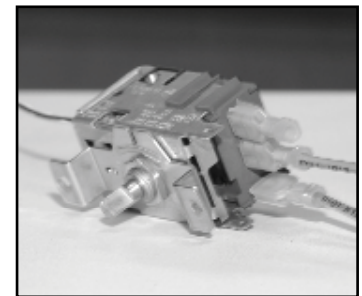

Figure 9
- C. Connect other black wire from old control to the single vertical terminal on the new temperature control. (See Figure 9).